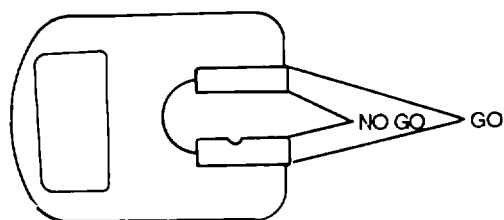

Figure 3-61. Progressive Snap Gauge
(1) *Nonadjustable*. The nonadjustable type is a solid construction, having two gauging members, GO and NO GO, as shown in figure 3-60. The part to be inspected is first tried on the GO side and then the gauge is reversed and the part is tried on the NO GO side. Some solid snap gauges, shown in figure 3-61, have combined gauging members in the same set of jaws as shown above, known as a progressive snap gauge. The outer member gauges the GO dimension, and the inner member the NO GO dimension.